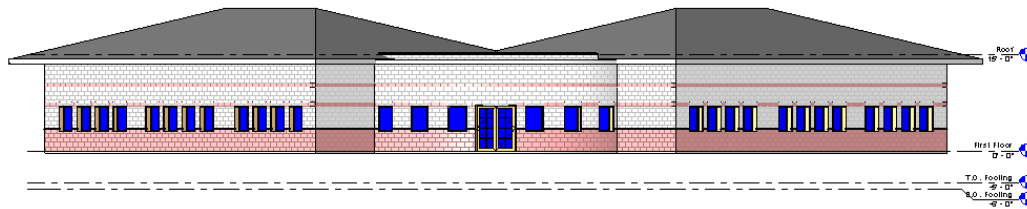

Figure 6-51 North elevation of the club project with the completed roof profile
41. Double-click on **North** in the **Elevations** tab in the **Project Browser** to view the north elevation of the club building, as shown in Figure 6-51.